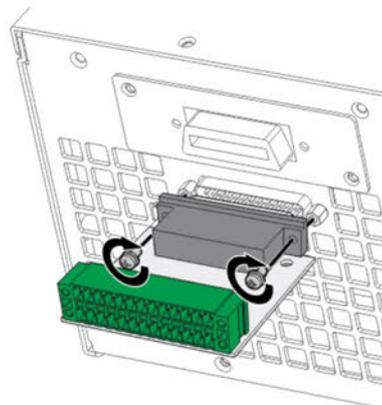

Figure 1-4 Analog Terminal Docking Board
2. Figure 1-4 shows the docking board of Analog terminal on the rear panel. The installation is shown below.